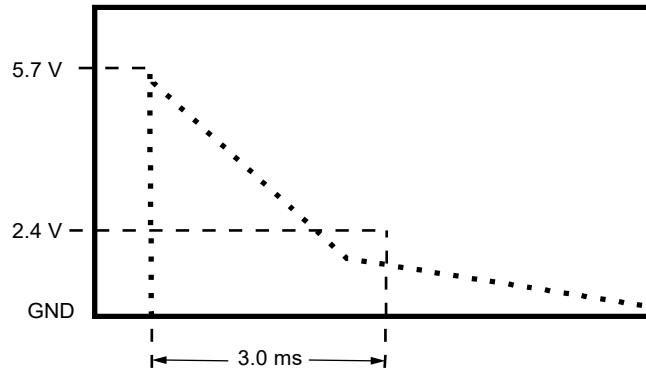

Figure 5. Waveform for Inductive Pickup Test
9. Adjust the amplitude of the function generator to produce a 3 VP-P sine wave. See Figure 5.
12. Check that the peak voltage is greater than 5.7 V and decays to less than 1.0 V between pulses. See Figure 5. Record the peak value for later use.
15. Check the amplitude after 3.0 ms from the waveform peak, the voltage amplitude is 2.4 V +0.5/-0.8 (1.6 V to 2.9 V). (See Figure 5(C).)